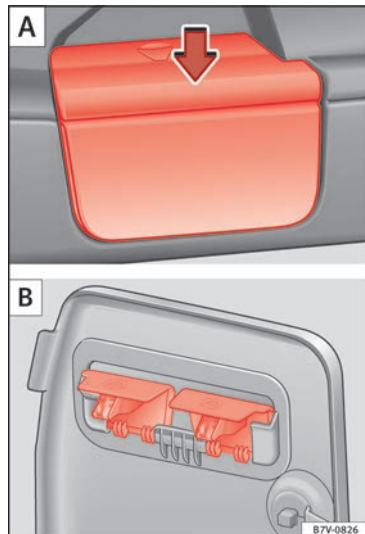

Fig. 164 Remove the shelf supports A then put them away safely B.
- Remove the shelf from the support in the side lining »» Fig. 164 A. To do this, press the shelf upwards (arrow) and remove it.
- Open the compartment in the left-hand side boot lining »» page 166 and hook the shelf to the rear of the compartment lid »» Fig. 164 B.